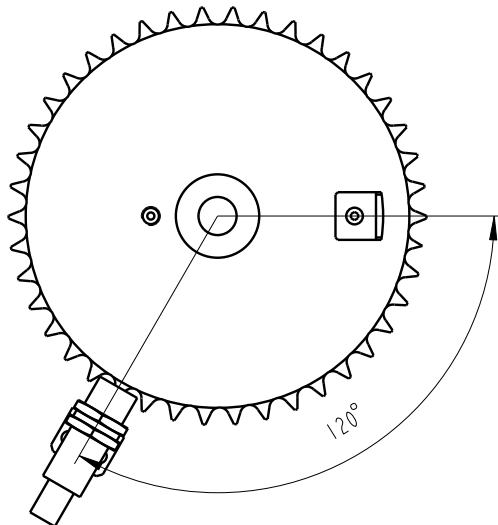

Fig. 32
- 3 To obtain correct stop position, check position of drive sprocket. The angle between sensor and sensor plate should be 120 degrees, see Fig. 32, corresponding to 14, 10 or 7 teeth on the sprocket, depending of machine type, see table below.